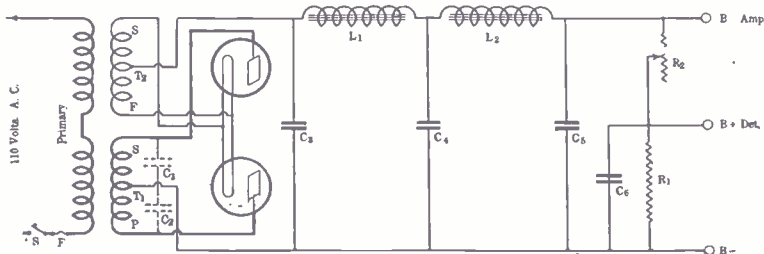

FIG. 1, showing the schematic diagram of the eliminator. T1 is the plate tap, while T2 is the filament tap.
UP to the present three specific types of B battery eliminators have been discussed by me in RADIO WORLD. (1)—The Rex B Battery Eliminator, employing a single tube, rectifying one side of the AC line. (2)—The Chemical B Eliminator, employing chemical cells for rectifying both sides of the AC line. (3)—The Raytheon Power Unit, employing a gaseous tube, rectifying both sides of the AC line (Dec. 12, 19, 26, Jan. 2 and 16 issues). An eliminator employing two tubes, rectifying both sides of the AC line, will be discussed in this issue. This is the Tectron, named after the rectifier tube employed. The electrical schematic diagram of this eliminator is shown in Fig. 1. It will be noted by a glance at the photos and diagrams that there is no difficulty attached to the construction.